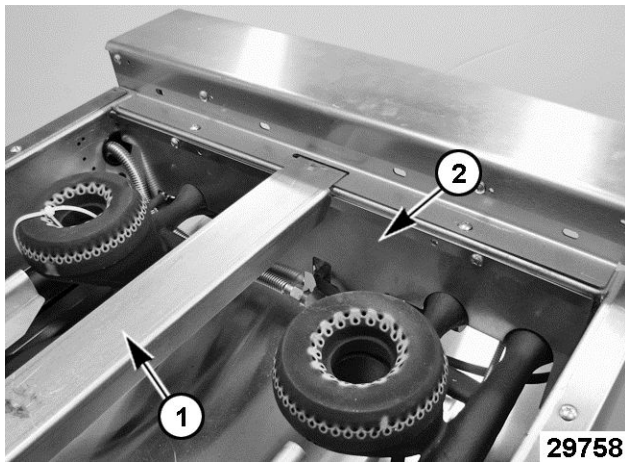

Fig. 69
5. Lift grate support (1, Fig. 69) from range top.
6. Remove heat shield (2, Fig. 69).